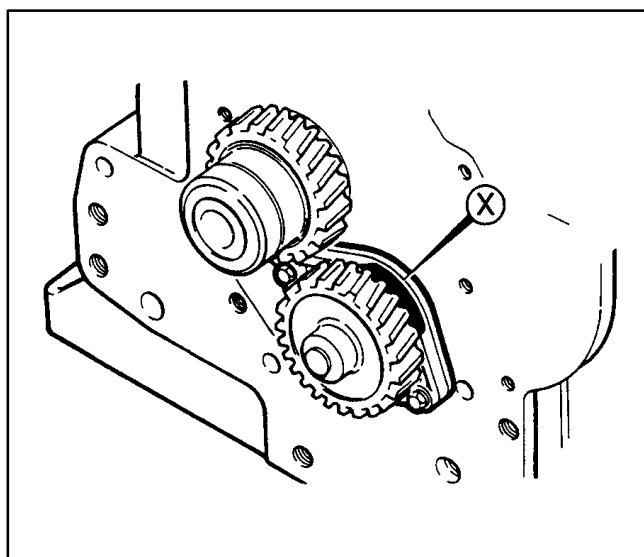

FIGURE 8-31. OIL PUMP LOCATING CUTOUT
1. Install the pump with the cut-out section of the pump flange (Figure 8-31, Item X) facing towards the top of the crankcase.